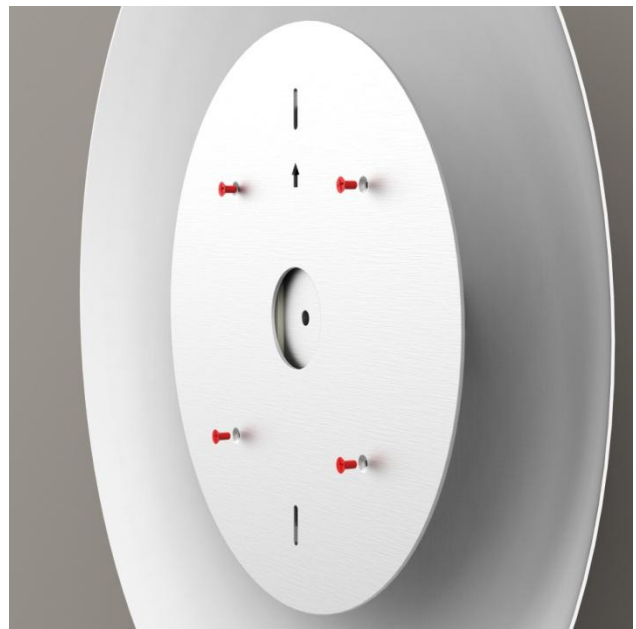

Figure 12
- Attach LED disk to electrical pan with flat head screws as shown (Figure 12).